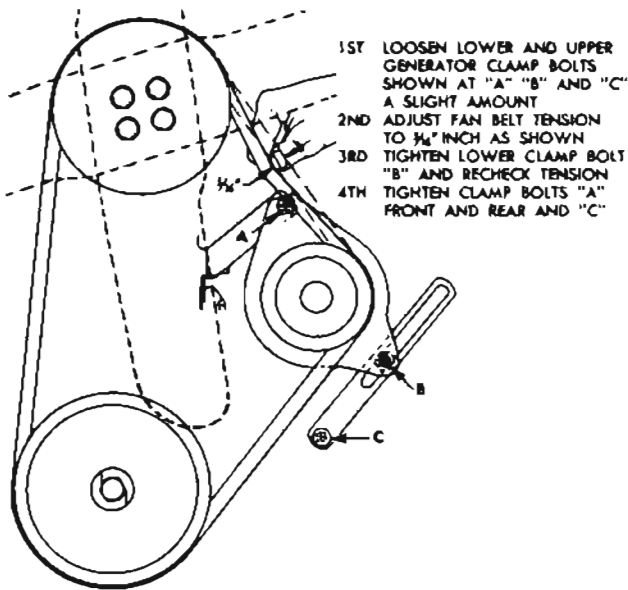

Figure 10-15—Fan Belt Adjustment
5. Check fan belt for condition and proper tension (fig. 10-15), and make certain that all generator mounting bracket and brace bolts are tight. A loose fan belt will permit belt slippage, resulting in rapid belt wear and low or erratic generator output. An excessively tight belt will cause rapid belt wear and rapid wear of generator and water pump bearings. **NOTE:** *If belt requires adjustment, first loosen belt so that pulley is free, then check pulley for tightness and check generator bearings for freeness of rotation and excessive side play. Tight or excessively worn bearings should be cleaned or replaced.*
4. If 40 amperes cannot be obtained at approximately 1250 RPM of engine check fan belt for proper tension (fig. 10-15). If fan belt is not slipping the generator does not have proper output. Remove generator for bench test (par. 10-27) and make necessary corrections before attempting any adjustment of generator regulator.